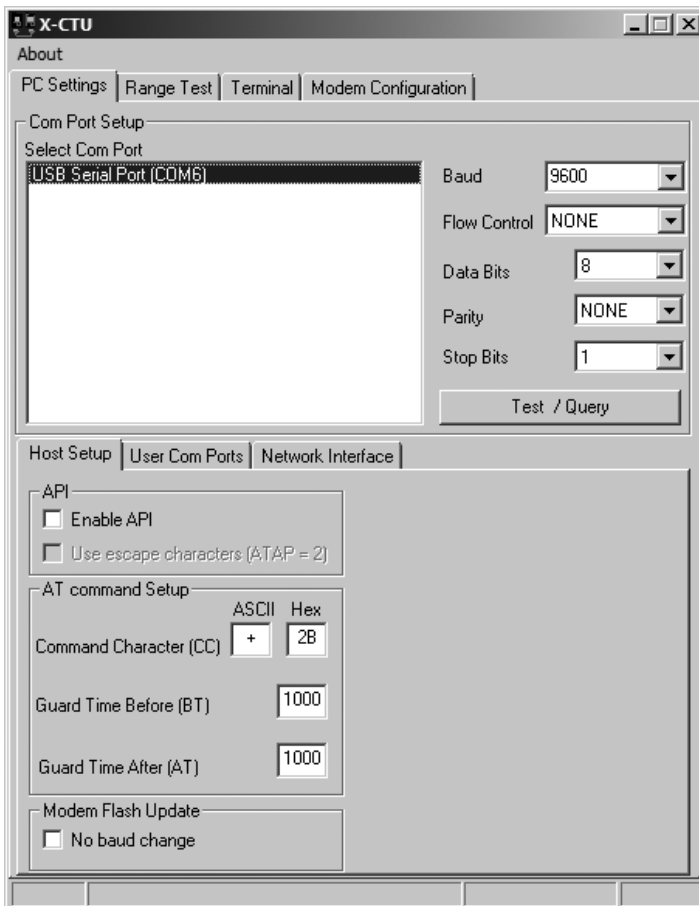

Figure 5-6 X-CTU software showing COM port selection.
- ✓ Open the X-CTU software. It should look similar to Fig. 5-6. Select the COM port that your Propeller is communicating through.